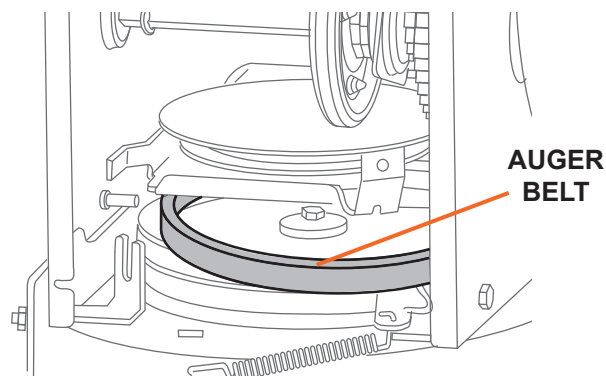

Figure 26
5. Remove the belt from the auger pulley, slip the belt between the support bracket and the auger pulley (see Figure 26).